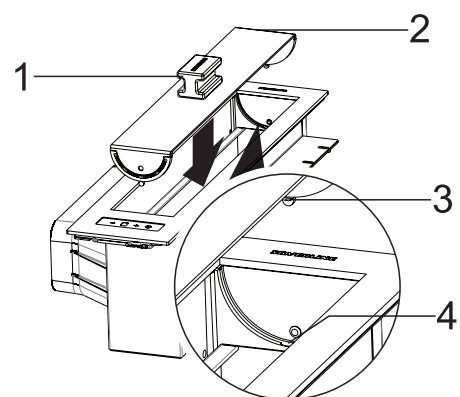

Fig. 12
- 11.** ■ Attach the magnetize holder on the centre of the metal cap (Fig. 12).
■ Insert the metal cap on the appliance surface in parallel to the product (Fig. 12).
Carefully insert the connection tab on the metal cap inside the connection socket on the appliance (Fig. 12).